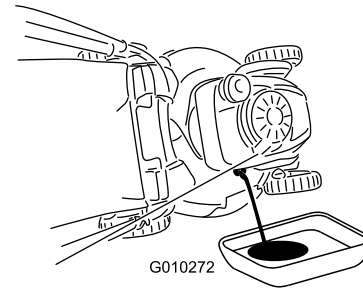

Figure 42
4. Tip the mower onto its side, with the air filter up, to drain the used oil out through the oil fill tube (Figure 42).